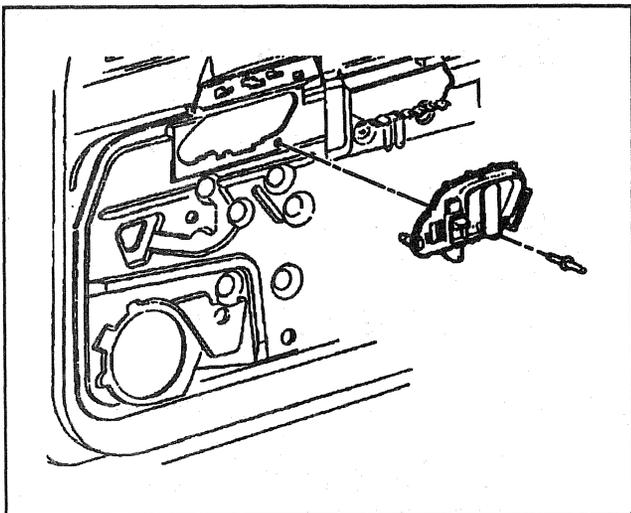

Figure 23—Front Door Inner Handle Assembly
**Remove or Disconnect (Figure 23)**
**Install or Connect (Figure 23)**